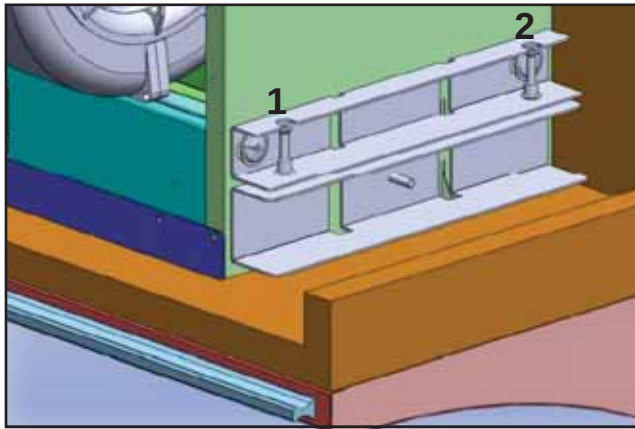

Fig.8
- 6) Install (2) 3/16x40 screws into the captive nuts of each upper installation bracket. Tighten screws to adjust the height of range hood until there is no gap between the cabinet bottom and front edge of hood, Fig.8. After hood is positioned, fully tighten the lower installation bracket screw from step 6, Fig.7-1.